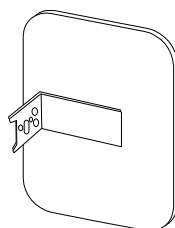

Figure 3-7.
- replacement mirror assembly (p/n 80180001) (see Figure 3-7)